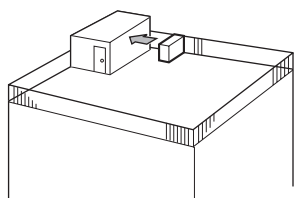

Fig. 2-3
- ① Face the air outlet towards the nearest available wall about 50 cm, 19-11/16 inch away from the wall. (Fig. 2-3)